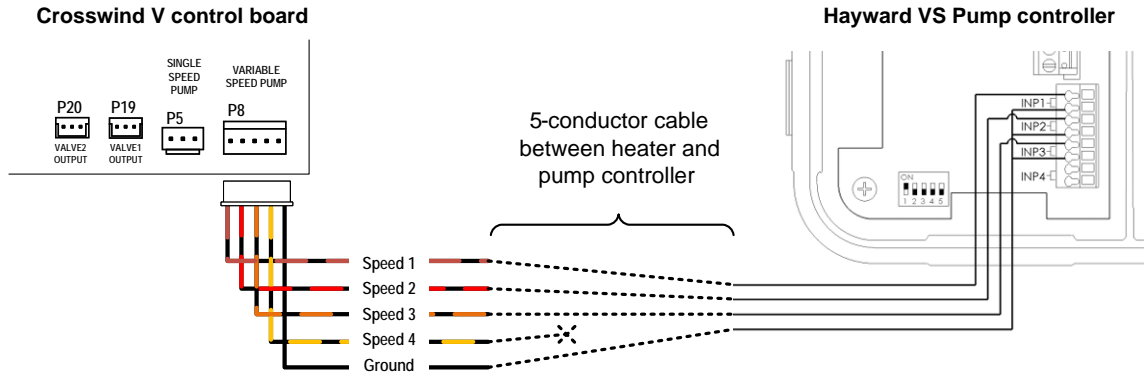
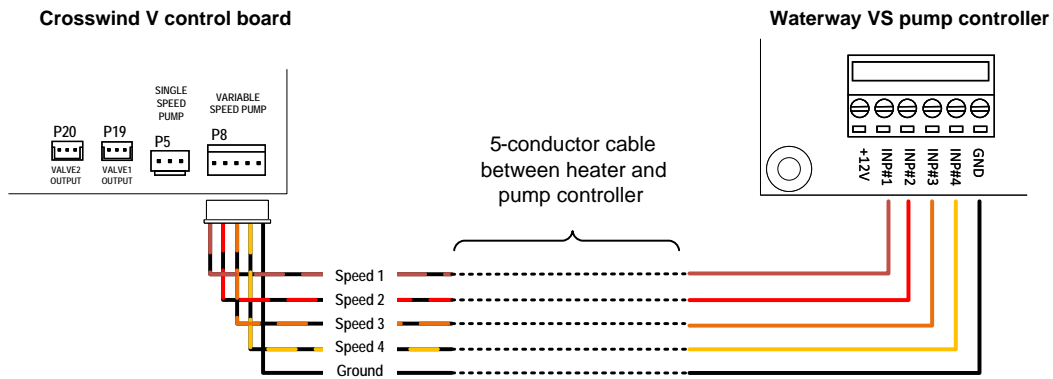

Figure 141. Hayward THP VS Pump Family
Figure 145. Waterway Power Defender VS Pumps with Discrete Switch Inputs
3. Connect the other end of the 5-conductor cable to the digital input terminals on the variable-speed pump controller or the digital to RS-485 pump control interface. Figure 141 through Figure 145, provide examples of connections for certain variable-speed pump brands and models. Please refer to the installation and configuration manual of your variable-speed pump for more details on connecting and configuring the digital input speed selector.